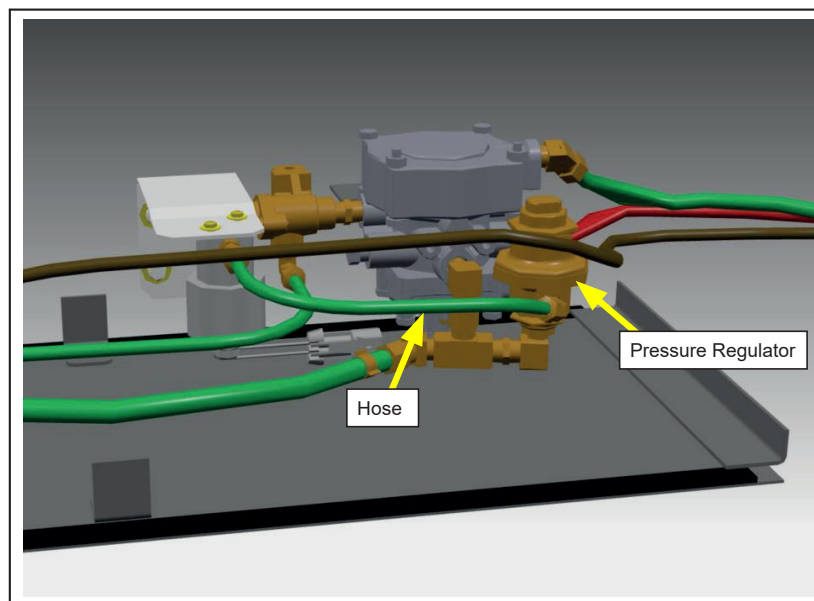

Figure 3 - Location of Pressure Regulator
- 1.8. Disconnect the pneumatic hose connected to the air regulator (see figure 3).